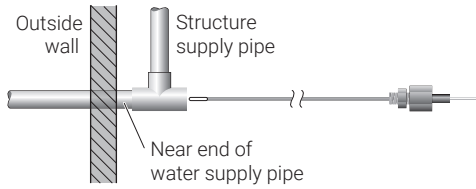
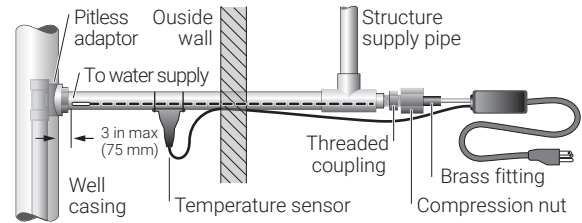
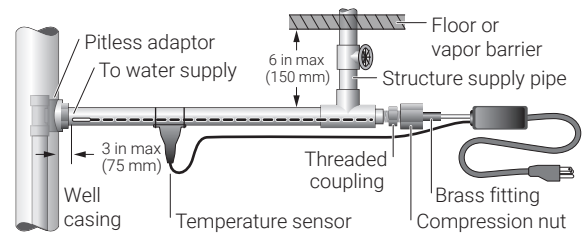

Figure 6
Figure 7
Figure 8
3. Attach the tee assembly to the near end of the water supply pipe, per local codes. Be sure the tee is installed so that the cable will be able to pass straight through the tee and into the pipe with no bending required (see Figure 6).
4. Attach structure supply pipe to the tee opening as shown in Figure 6, per local codes, using appropriate materials. If the cable will be installed as in Figure 8 and a shutoff valve will be used in this section of the pipe, the total length of unheated pipe (pipe plus valve without cable in it) must not exceed 6 in (150 mm).
**Note: If this installation is for pipe supplying water to a manufactured home, the structure supply connection should be made underneath the vapor barrier supplied with the home, if possible (see Figure 8).**
- 5a. Ensure adaptor and appropriate pipe fittings to accept threaded coupling are properly connected to the tee, per local codes, and fully insert the cable into the water supply pipe through remaining opening in tee assembly as shown in Figure 7 or Figure 8 as appropriate for the installation. If a valve or shutoff is installed at any point on the pipe, the heating cable must not pass through it. Proceed to Step 6.
- 5b. If no pipe has been added to the tee, ensure adaptor and appropriate pipe fittings to accept threaded coupling are properly connected to the tee, per local codes, and fully insert the cable into the water supply pipe through remaining opening in tee assembly as shown in Figure 7 or Figure 8 as appropriate for the installation.
8. Fully extend temperature sensor cord and attach temperature sensor to pipe as shown in Figure 7 (for thru walls) or Figure 8 (for under floors) as appropriate for the installation, using tie-wraps provided. If installation is as shown in Figure 7, the temperature sensor MUST be attached to the pipe as far from the outside wall as possible.